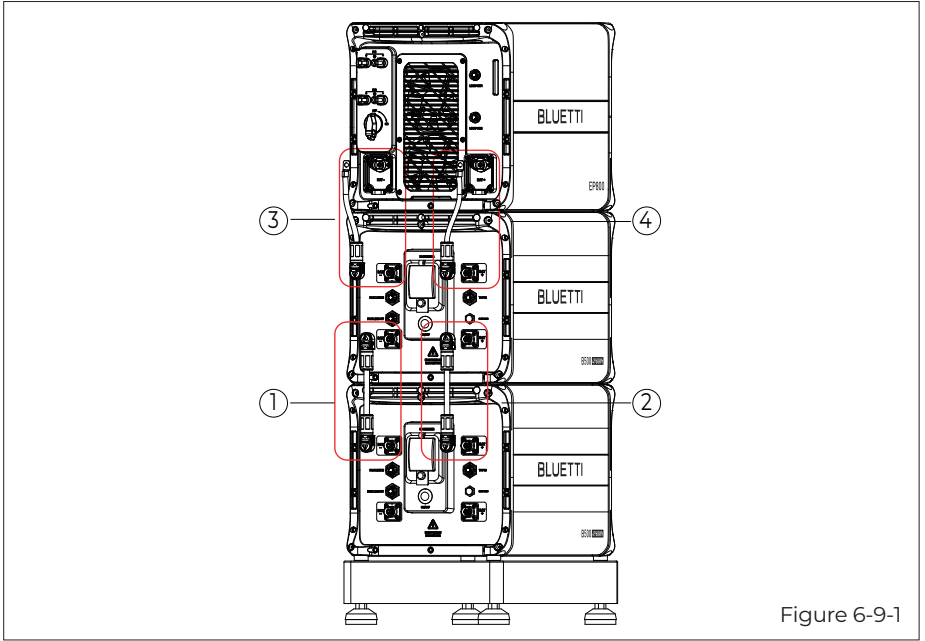

Figure 6-9-1
Step 1: Connect two B500 battery packs via the battery expansion cables - black cable for negative terminals, red for positive terminals. See “①” “②” of Figure 6-9-1 and 6-9-2.
Step 2: Connect the top B500 to EP800 inverter via the battery power cables - black cable for negative terminals, red for positive terminals. See “③” “④” of Figure 6-9-1 and 6-9-2.